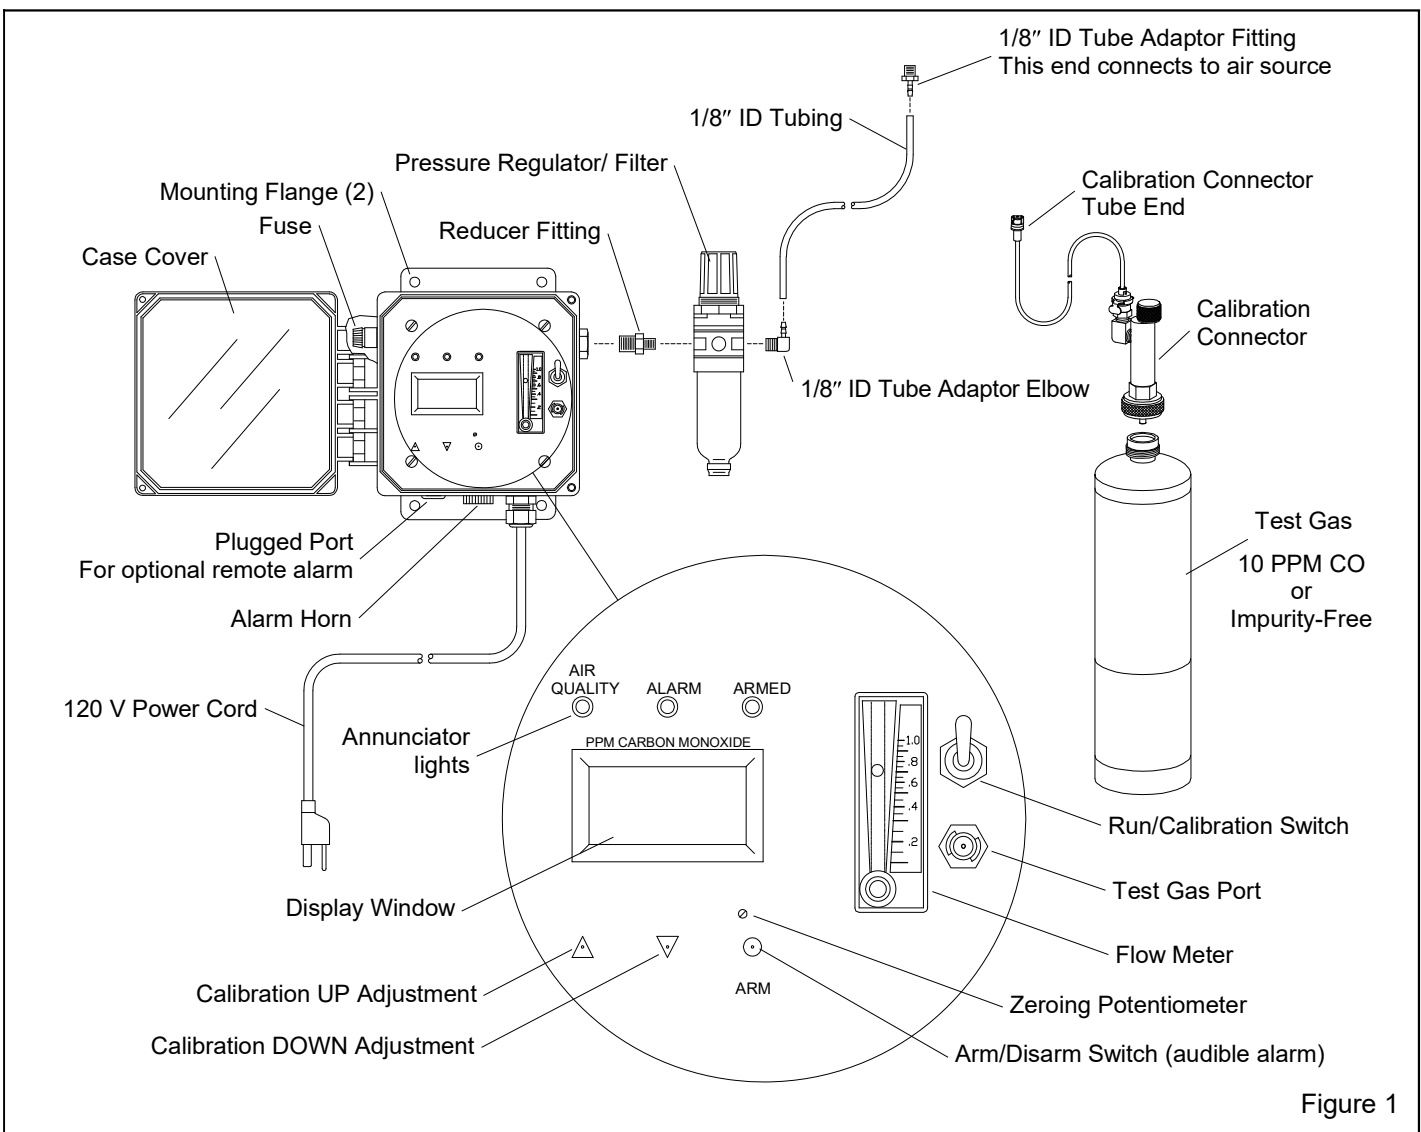

Figure 1
1.4.1 The primary components are shown in Figure 1. The instrumentation is enclosed in a non-metallic case. The monitor system includes the instrument case, filter/regulator, ten feet of 1/8" ID x 1/4" OD tubing with adaptor fittings, a cylinder of 10 PPM (parts per million) test gas, and calibration connector which includes the connector valve and tubing.